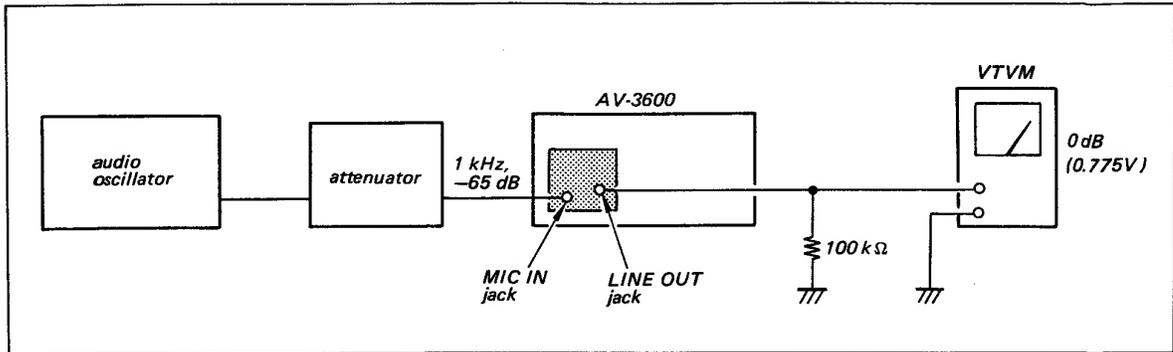

Fig. 7-3. Record level calibration set-up
Set-up: See Fig. 7-3.
1. Connect the VTVM to TP-502 using a 100 kΩ load resistor as shown in Fig. 7-3.